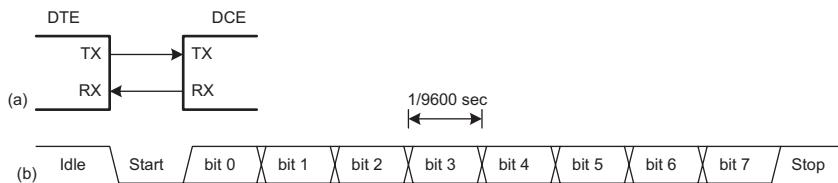

Figure e9.10 Asynchronous serial link
Figure e9.10\(a\) shows an asynchronous serial link. The DTE sends data to the DCE over the TX line and receives data back over the RX line. Figure e9.10\(b\) shows one of these lines sending a character at a data rate of 9600 baud. The lines idle at a logic “1” when not in use. Each character is sent as a start bit (0), 7 or 8 data bits, an optional parity bit, and one or more stop bits (1’s). Most typically, start and stop bits and 8 bits of data are sent. The UART detects the falling transition from idle to start to lock on to the transmission at the appropriate time. Although seven data bits is sufficient to send an ASCII character, eight bits are normally used because they can convey an arbitrary byte of data.